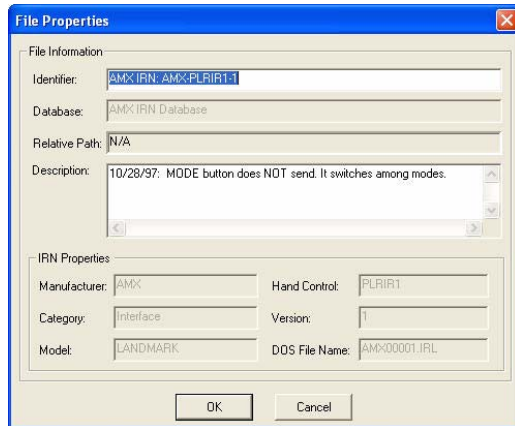

FIG. 81 File Properties window
4. In the **File Properties** window (FIG. 81), verify the Identifier and Description information (in the only two fields with editable data) and click OK.